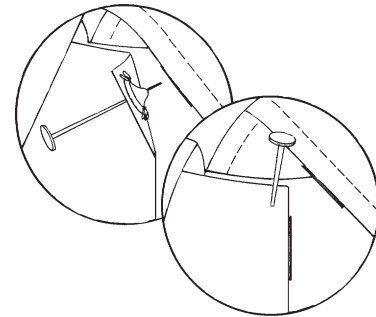

Fig. 14-7
2. Pin the garment closure together and place a pin through the center hole of the ball section to mark the location for the socket, or flat part of the snap. (Fig. 14-7)